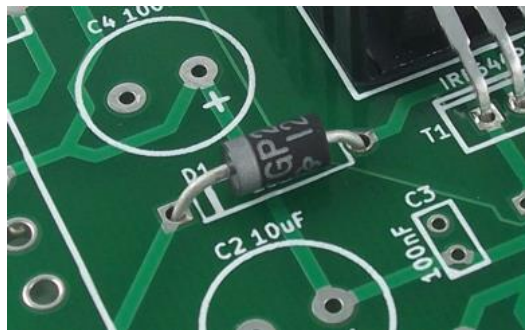

Figure 3. A part of a PCB showing the Solder mask and Silkscreen
- **Solder Mask**: is the layer on top of the copper foil. This layer gives the PCB its green (also, blue, red, black, yellow, ...) color. It is overlaid onto the copper layer **to insulate the copper traces from accidental contact** with other metal, or solder, or conductive bits. This layer helps the user to solder to the correct places and prevent solder jumpers (check Figure 3).
- **Silkscreen**: is an **ink layer** (usually white ink but any color can be used) applied on top of the solder mask layer. The silkscreen **adds letters, numbers, and symbols to the PCB** that allow for easier assembly and indicators for humans to better understand the board. We often use silkscreen labels to identify different circuit components (check Figure 3).